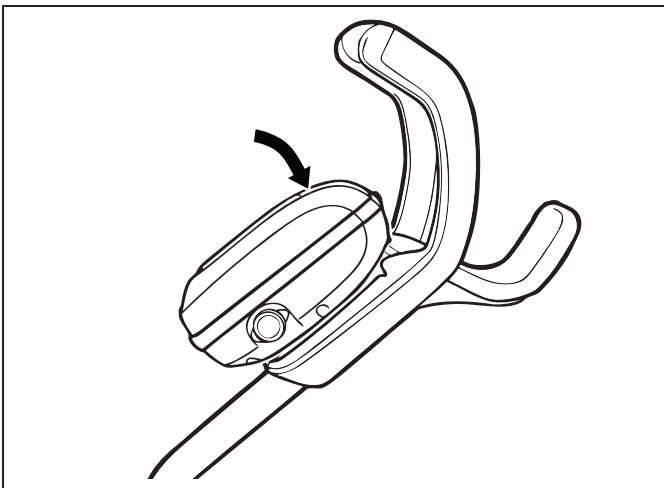

Figure 9. Attach Control Unit to Caddy
10. Press Control Unit onto the caddy hook until it snaps and locks into position (Figure 9).